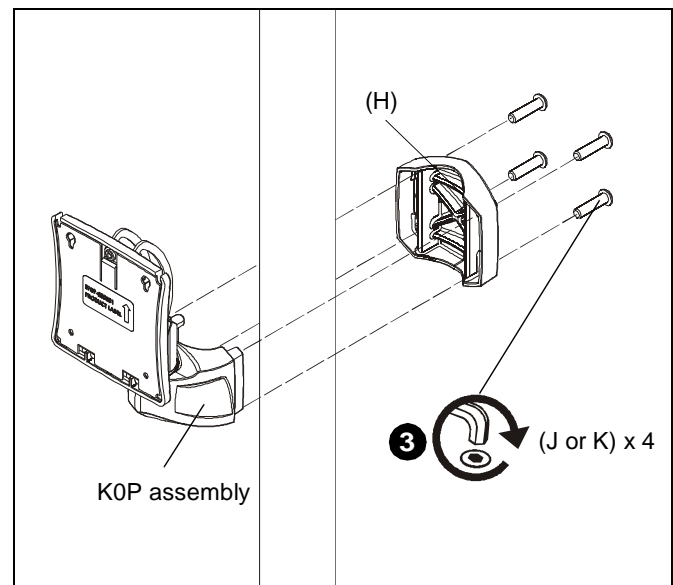

Figure 2
2. Place mount (A) against pole with clamp (H) on opposite side of pole. (See Figure 2)
3. Using 5/32" hex key (L) and appropriate length screws, loosely attach K0P assembly to pole clamp (H). If installing to 1 1/2" NPT pipe, use 1/4-20 x 1 1/2" button head cap screws (J). If installing to 1 1/2" diameter pipe, use 1/4-20 x 1" button head cap screws (K). (See Figure 2)